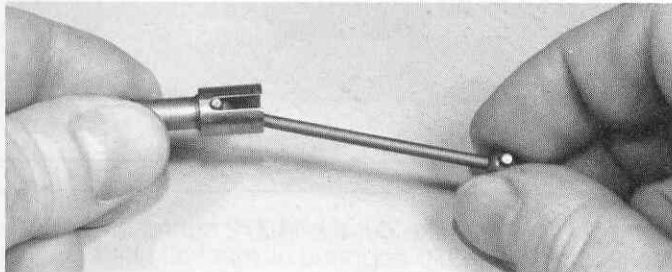
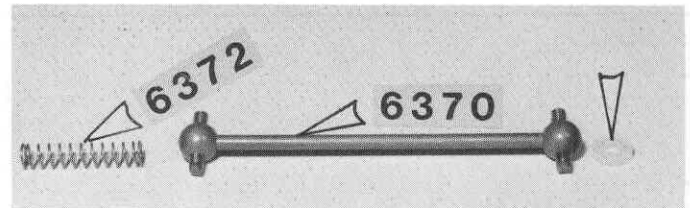

Fig. 109
Fig. 115
❑ **Fig. 109** Before proceeding with the assembly of the rear hub carrier it's a good idea to check fit of the dogbone in the stub axle. If it does not slide and swivel freely then check for burrs around the dogbone pins or heat treating residue inside the stub axle. Also check that the spring fits freely in the small hole at the bottom of the dogbone socket (see Fig. 115). If either of these holes are clogged they can be cleaned by soaking the stub axle in hot or boiling water for a half hour. Dry and oil the stub axle after cleaning.
□ **Fig. 115** Take out the #6372 spring and nylon washer and the #6370 dogbone or rear half-shaft. Push the nylon washer into the #6612 axle drive gear.